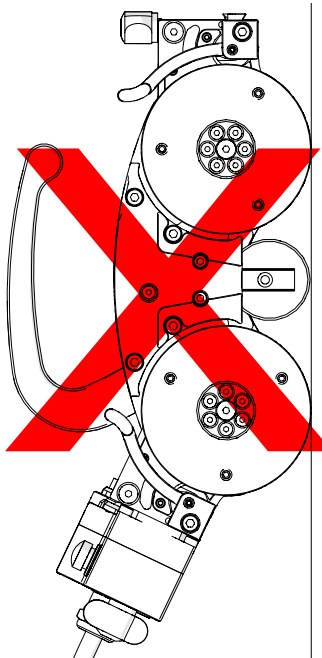

Fig. 121 - Incorrect use
2. Do not have umbilical pivoted away from the inspection surface (Fig. 121).